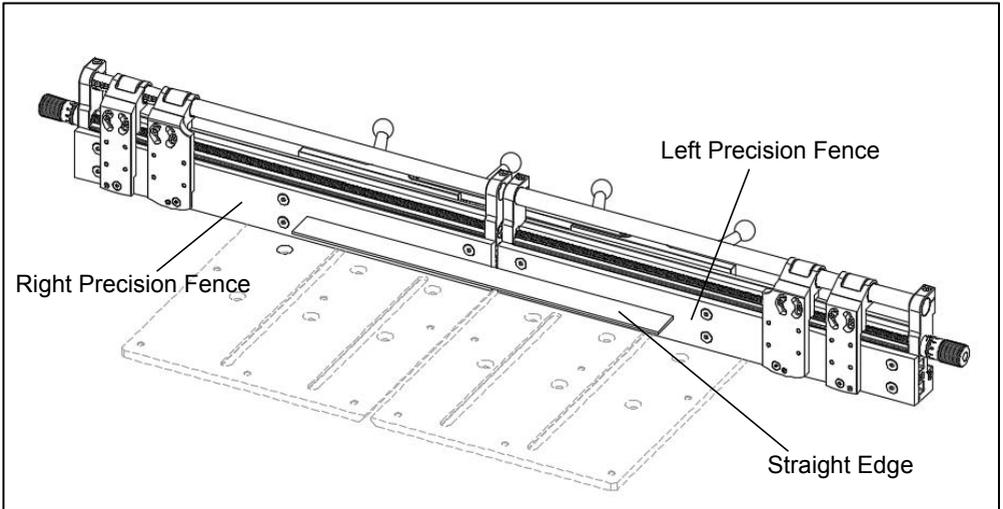

Fig. 3
- As shown in Fig. 3, place a straight edge along both fence face to check the straightness. With the adjusting levers loosen, if the two halves of the fence are not coplanar, then slightly adjust the fence bases to align them and ensure that they are coplanar to each other. Once they have been aligned, then retighten the 4 adjusting levers along with the 4 socket cap screws for the bridge.